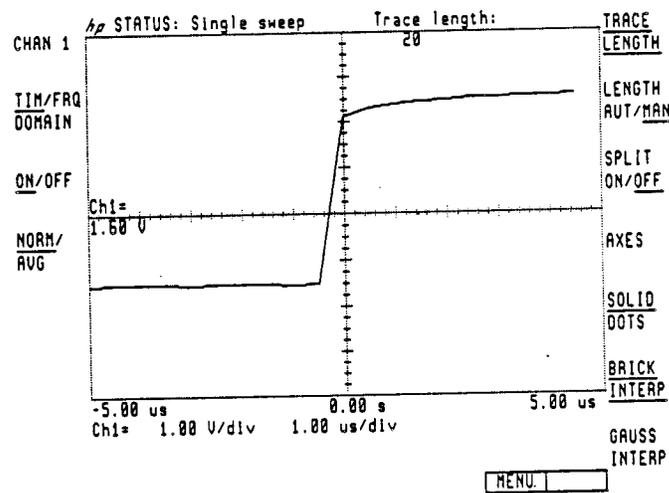

Figure 4-7. Sync Output
4. The displayed pulse should originate near the center graticule. See Figure 4-7. Verify that the "high" and "low" voltages meet the standard TTL requirements; that is, the high should be  $\geq 2.4V$  and the low should be  $\leq 0.4V$ . (Note that this is a functional check only.)